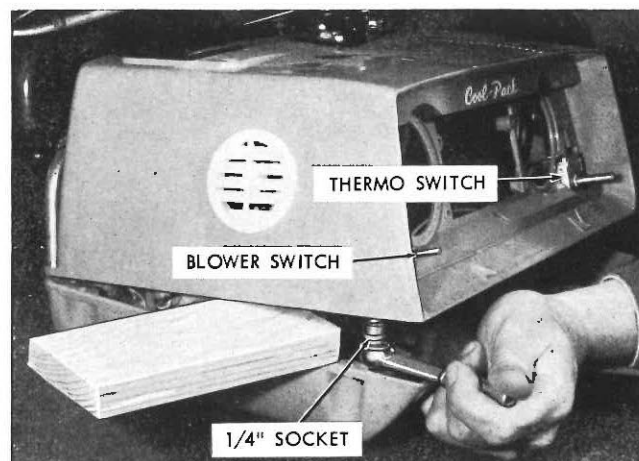

Fig. 3—Cool Pack Control Switch Removal
5. Using a ratchet and  $\frac{1}{4}$ " socket, remove the switch attaching screws, as shown in Figure 3.